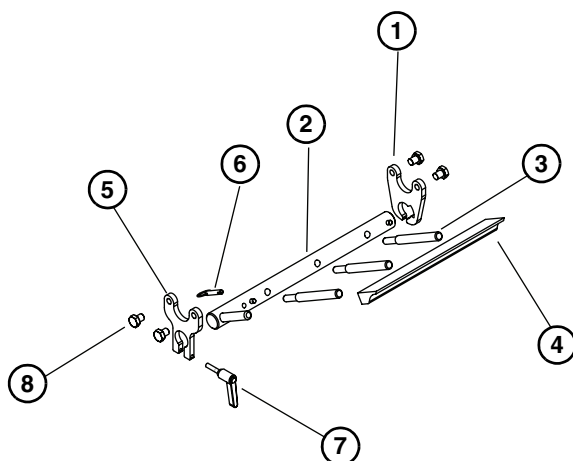

Figure 30
Typical Scraper Components (**Figure 30**)
1. Attach the scraper adjust plate (**Figure 30, item 1**) and the scraper mount plate (**Figure 30, item 5**) to the frame using four M10-1.5 x 12mm hex head cap screws.